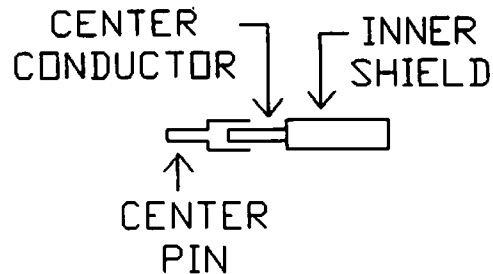

Figure 2
5. Slide the inner cable into the hole in one end of the center conductor. Using the crimping tool, crimp the center pin with the inner cable in place. See Figure 2.